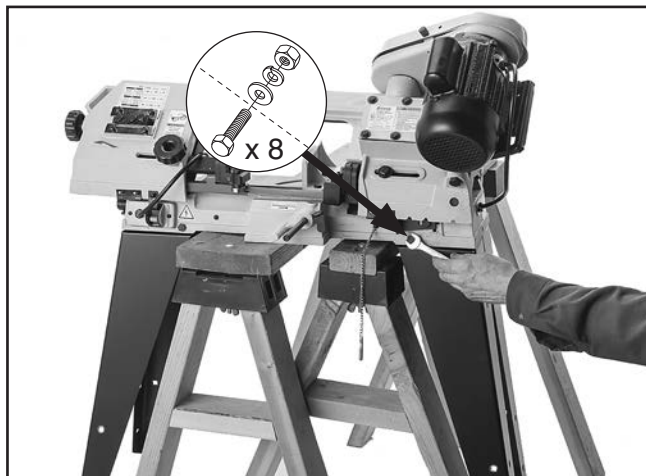

Figure 10. Example of attaching legs to bandsaw.
2. With help from an assistant, lift bandsaw onto pair of closely spaced sawhorses or other suitable support (see **Figure 10**).
3. Attach legs to bandsaw with (8) M8-1.25 x 20 hex bolts, 8mm flat washers, 8mm lock washers, and M8-1.25 hex nuts (see **Figure 10**).